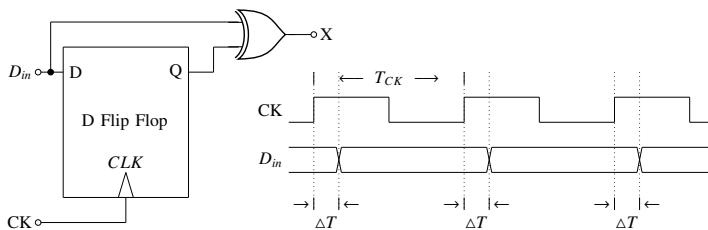

Fig. 5.22
22. In the circuit shown below, a positive edge-triggered D Flip-Flop is used for sampling input data D_{in} using clock CK . The XOR gate outputs 3.3 volts for logic HIGH and 0 volts for logic LOW levels. The data bit and clock periods are equal and the value of $\Delta T/T_{CK} = 0.15$, where the parameters ΔT and T_{CK} are shown in Fig. 5.22. Assume that the Flip-Flop and the XOR gate are ideal. If the probability of input data bit (D_{in}) transition in each clock period is 0.3, the average value (in volts, accurate to two decimal places) of the voltage at node X , is _____. (GATE EC 2018)